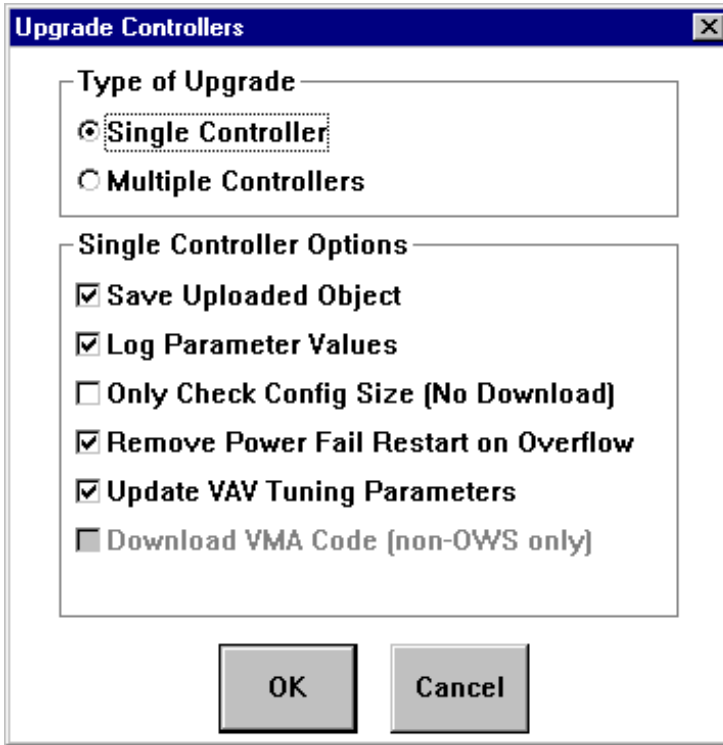

Figure 17-5: Upgrade Controllers Dialog Box
2. Choose Single Controller in the Upgrade Controllers dialog box (Figure 17-5).